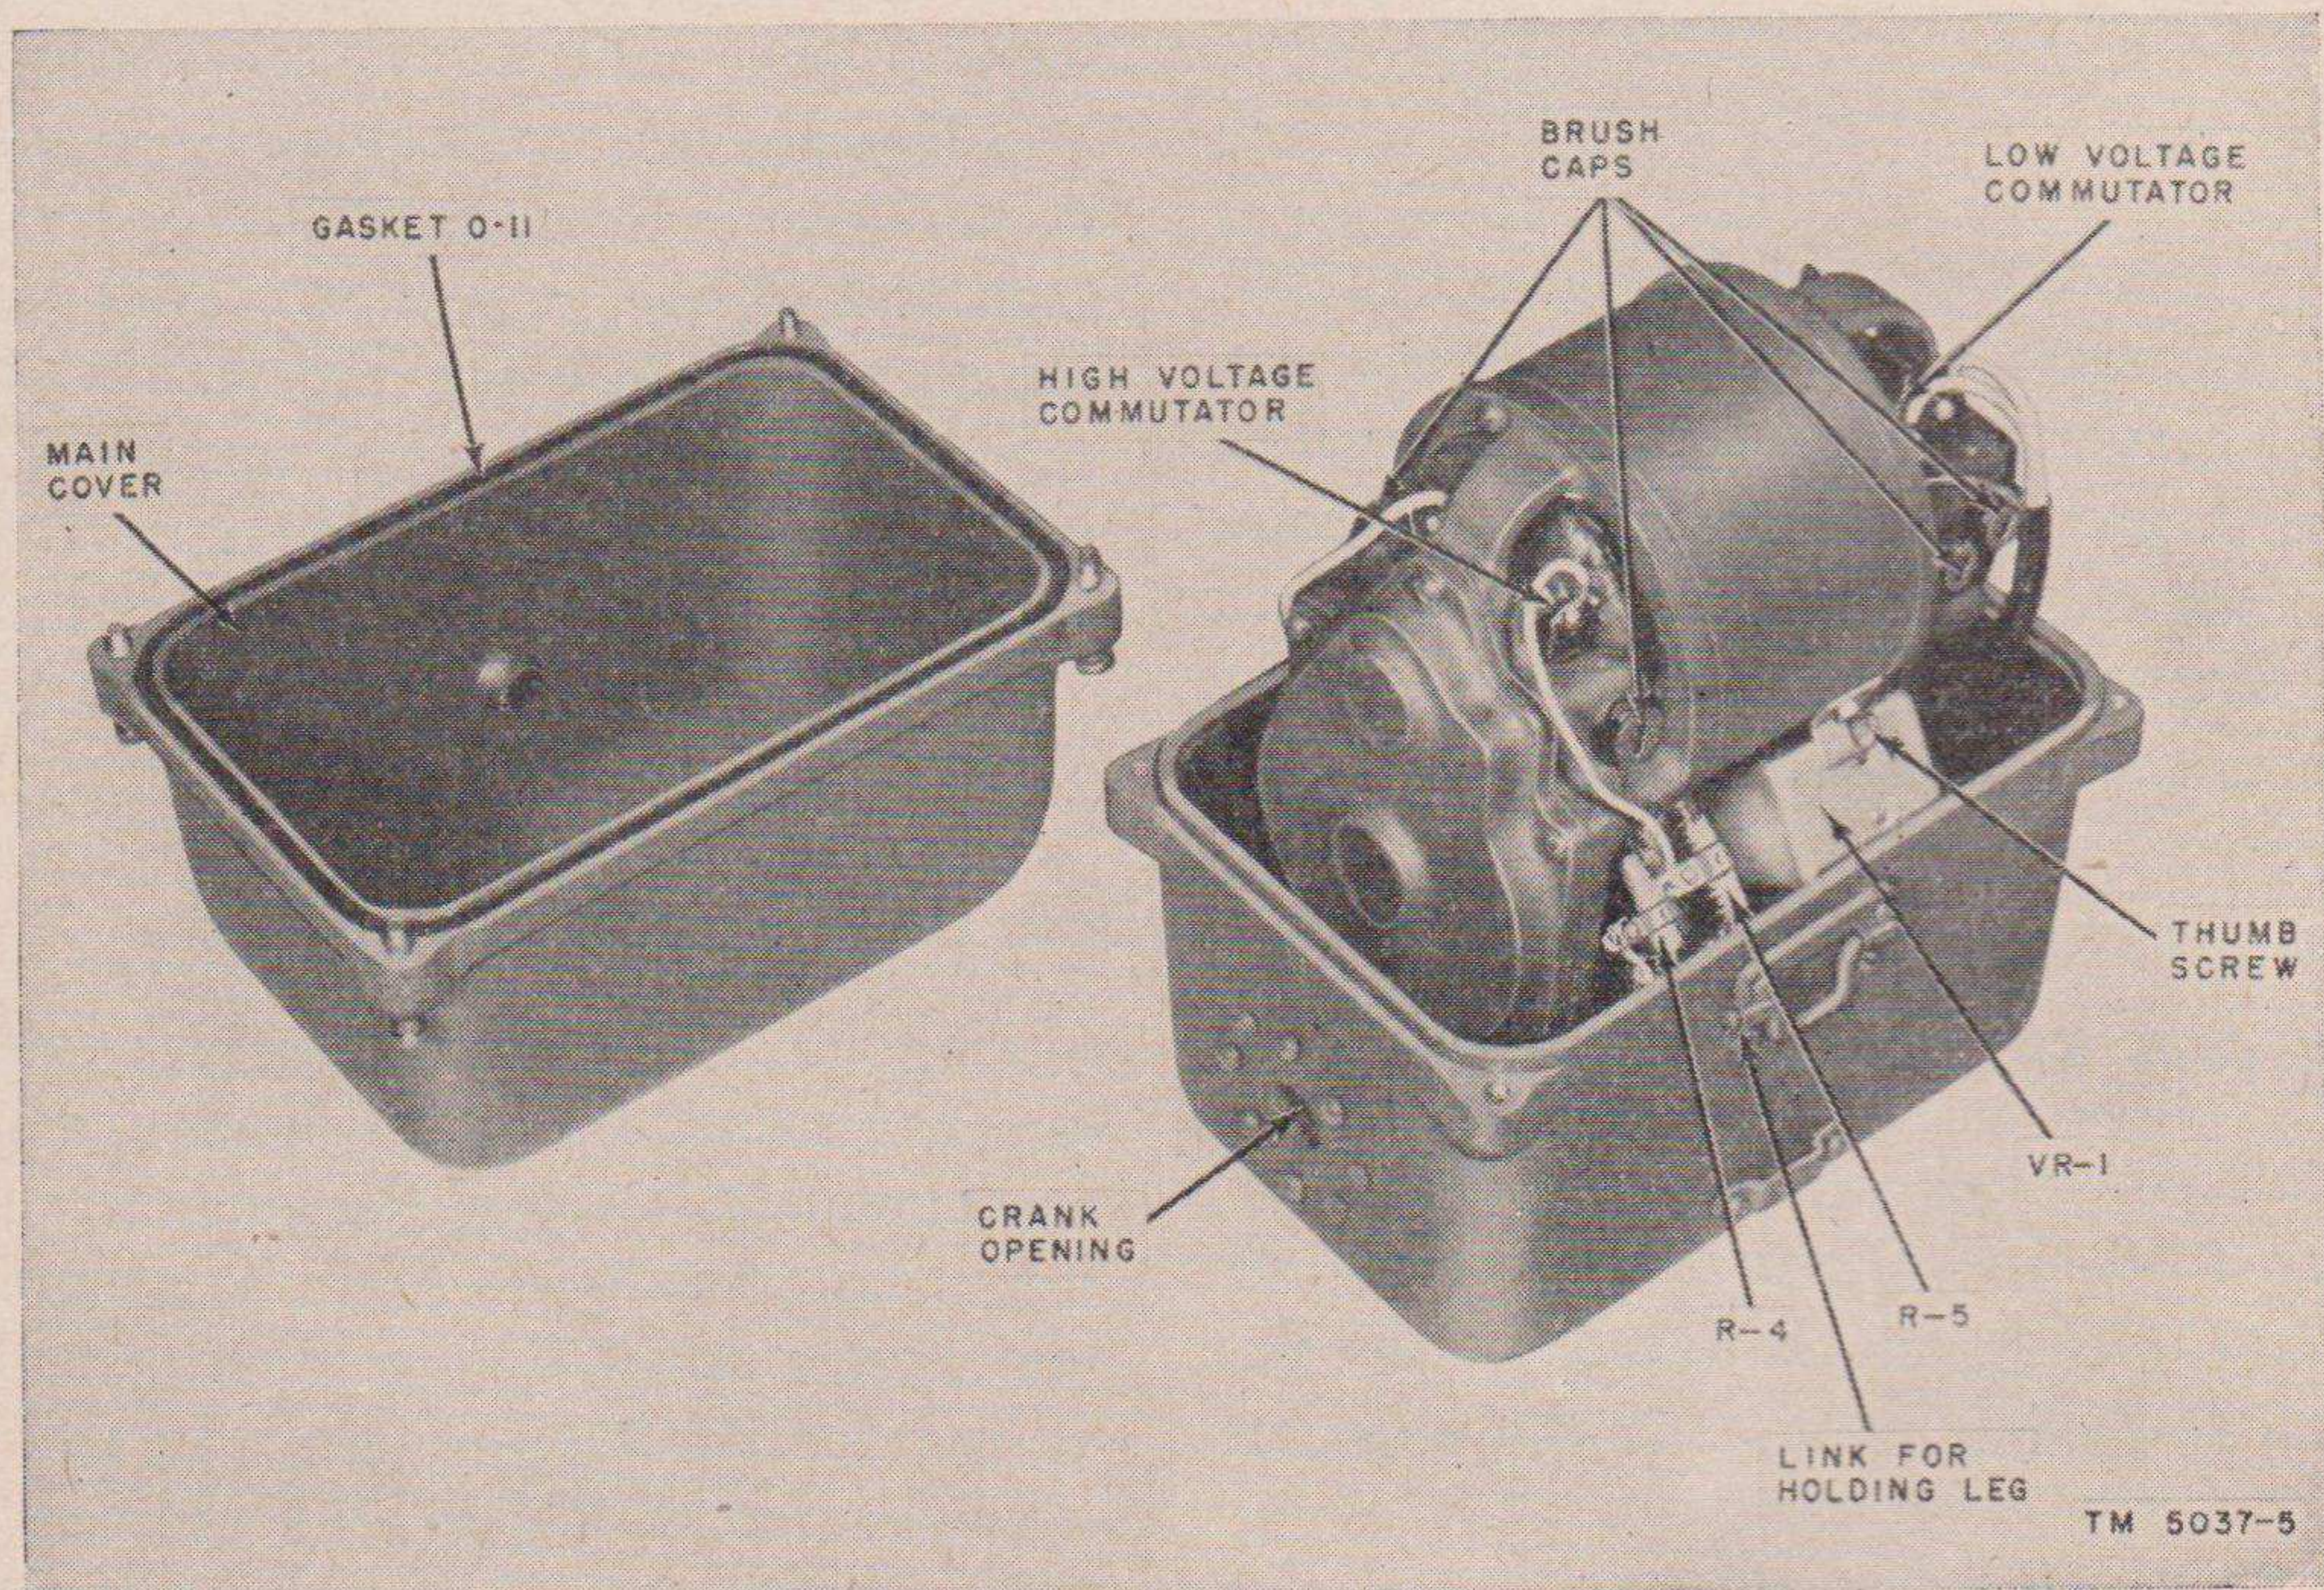

Figure 5. Generator G-8/GRC, top cover removed.
d. When the equipment has been exposed to the cold and is brought into a warm room, it will start to sweat and will continue to do so until it reaches room temperature. When the equipment has reached room temperature, dry it thoroughly. This condition also arises when equipment warms up during the day after exposure during a cold night. It may be necessary to remove the top cover (fig. 5) from the generator to examine the commutator for an accumulation of excess moisture.
e. Refer to figures 5, 6, and 7 for location of parts; refer to paragraph 47 for disassembly instructions.